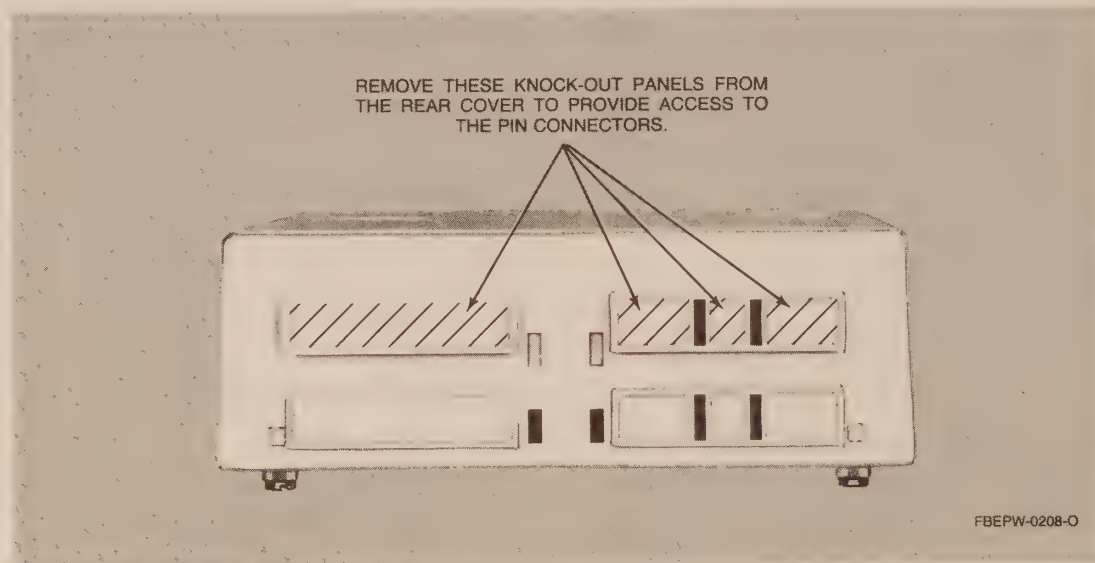

Figure 2. Knockout Panels to be removed
(1) Disconnect all connectors from the alternate control module.
(2) Loosen the two captive screws on the bottom of the housing and remove the rear cover.
(3) Remove the escutcheon, if there is one, from the upper front panel. Separate the MVS-20 escutcheon from the backing and place it carefully over the upper front panel, making sure the escutcheon holes are aligned with the holes in the panel. Press it firmly into place.
(4) Remove all the knockout panels from the upper portion of the rear housing cover by pushing them out toward the rear of the cover. (See Figure 2.)
(1) Determine whether the *MVS-20* board will be on the upper or lower level of the housing assembly, and remove the corresponding row of knockouts from the rear housing cover (Figure 2). Remove the panel by pushing it out toward the rear of the cover. If possible, install *MVS-20* in the upper slot, where it is easy to operate.